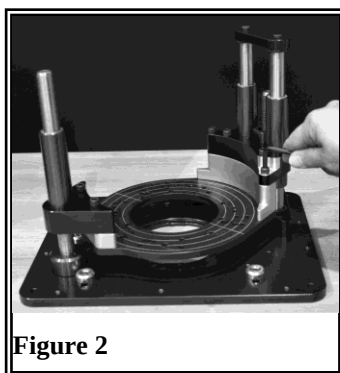

Figure 2
1. Remove the five (five) 1-1/2" Cap Screws and one (1) 1" Cap Screw from the carriage brackets (Figure 2 and 3)